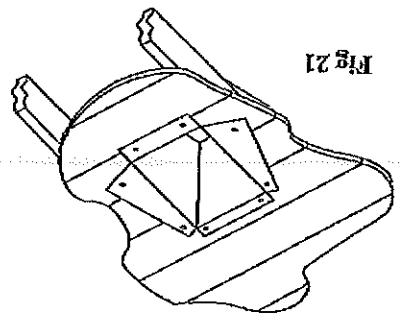

Fig 21
7. Using tin snips, cut the Support Box from the top corners down to the roof line, and fold the resulting flap over the roof sheathing (Figure 21). Before nailing it to